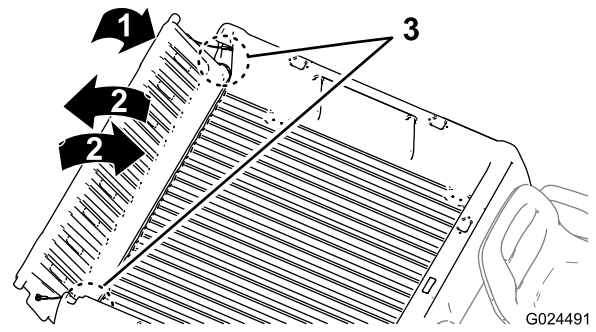

Figure 19
2. Rotate the tailgate to approximately 45° position (Figure 19).
3. Using a short, shaking motion to rotate the tailgate back and forth several times (Figure 19).